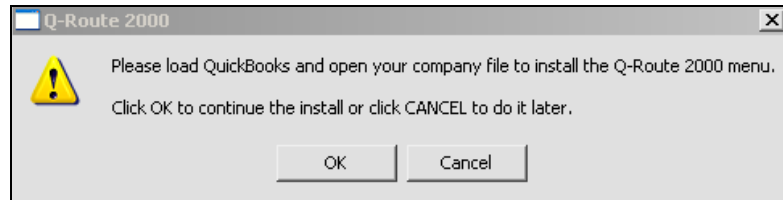

Figure 2.07
NOTE: Depending on the speed of your system, **Figure 2.07** above may popup prior to **Figure 2.06**.
2. Click **OK** to the message displayed in **Figure 2.07**.